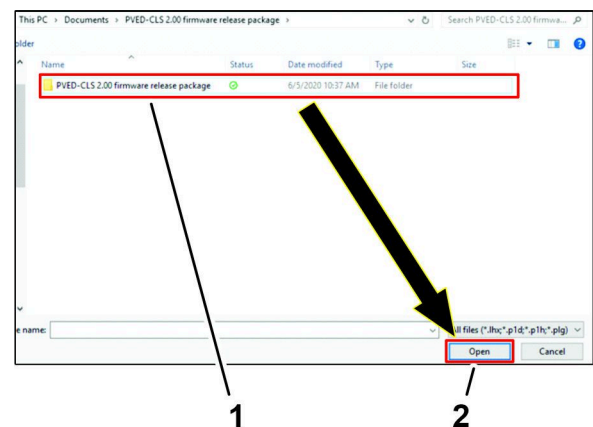

Figure 43
4. Navigate to the PVED-CLS 2.00 firmware release package.zip file, click the PVED-CLS 2.00 firmware release package folder, and click the OPEN icon (Figure 43).